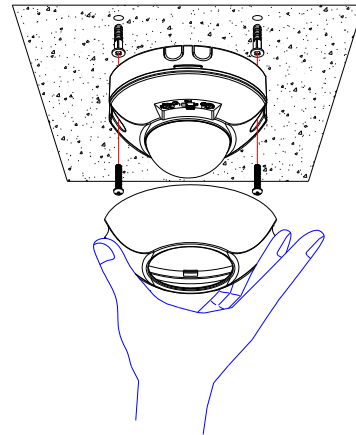

FIGURE 6
- (7) Drill the ceiling wall and screw the base to the wall using suitable plastic wall plugs and screws provided.(FIGURE 6)